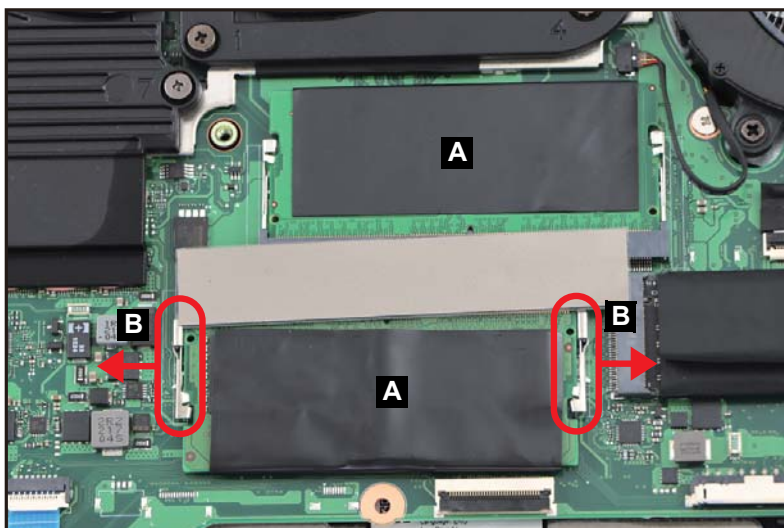

Figure 1-15. DIMM Module Removal
1. Find the DIMM modules (A) in the system (Figure 1-15).
2. Push the DIMM module clips (B) outwards (Figure 1-15).